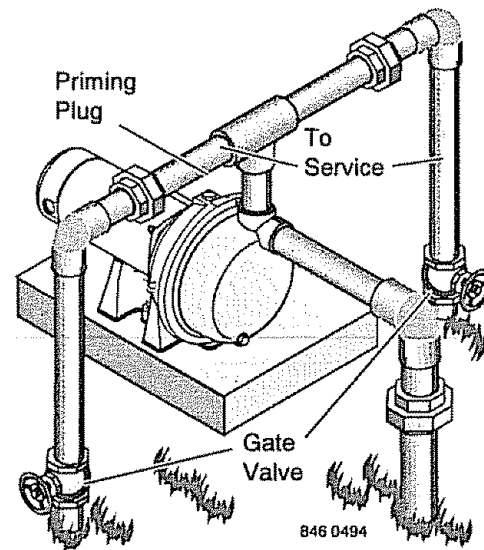

Figure 7 – Multiple Discharge
Pump discharge can be divided to supply two (2) or more sprinkler systems. A suggested multiple discharge to service is shown in Figure 7, Page 4.